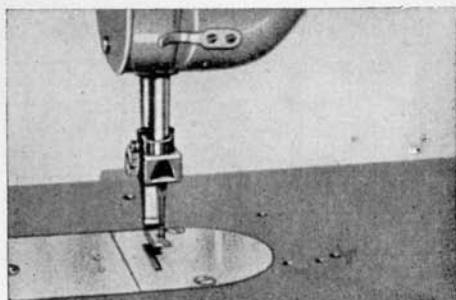

Fig. 40
- special grooved needle plate (fig. 40),